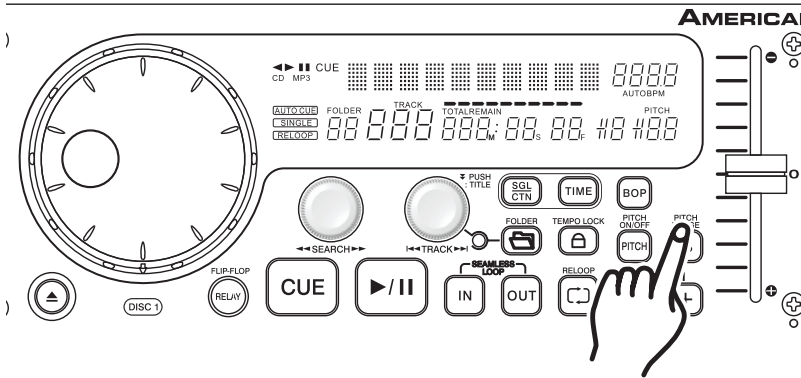

Figure 29
Using the Pitch Slider Percentage Selector (3): You may choose a pitch operating range at any time. To change the operating range be sure the pitch function is turned on, see figure 29. The pitch percentage can be changed between +/-4%, +/-8%, +/-16%, or (+/- 100% for CD). 4% will allow the least amount of pitch manipulation and 16% or (100% for CD) will allow the most amount of pitch manipulation. To adjust the different values, tap on the % **BUTTON (11)** until your desired value is reached.